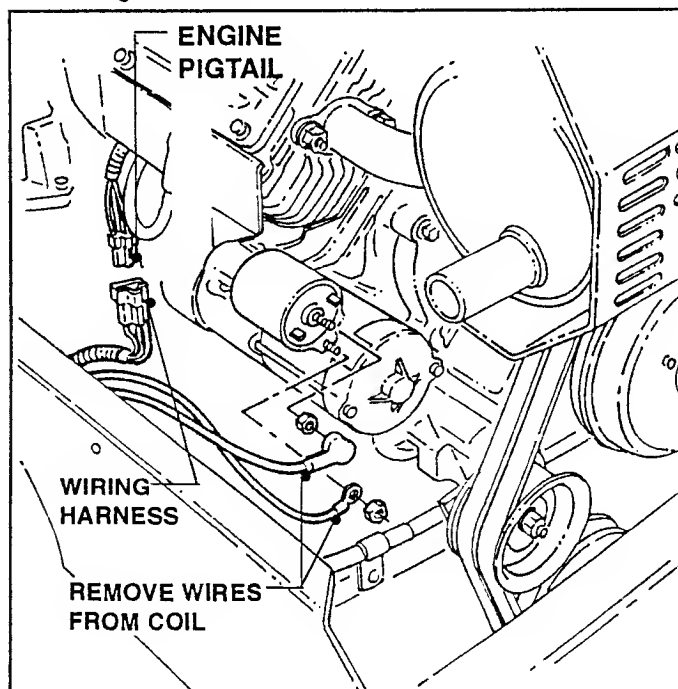

FIGURE 4.3
- B. Disconnect engine pigtail from wiring harness. See Figure 4.3.
- C. Remove wires from coil. Refer to Figure 4.3.